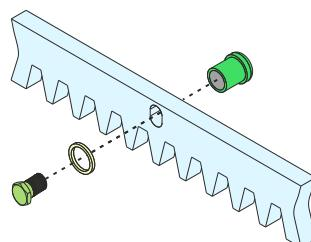

Fig. 6
- 6.2. Fix on each gear rack element the support pawls with the appropriate lock screws, making sure to put them in the upper part of the hole - Fig. 6;